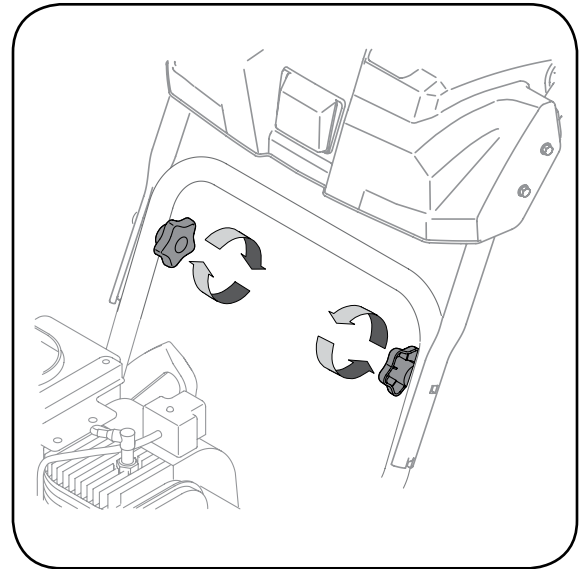

Figure 3-2
- b. Tighten star knobs to secure upper handle to lower handle, Figure 3-2.